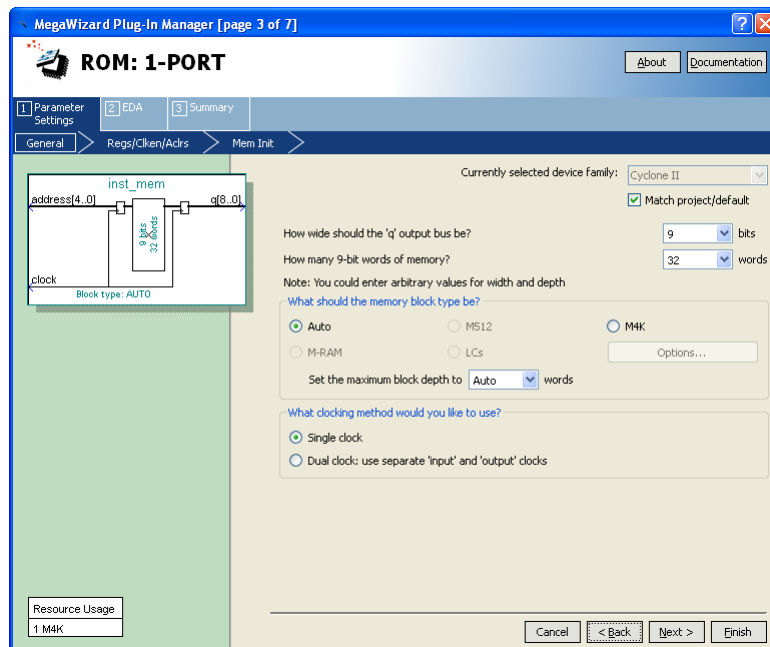

Figure 5. 1-PORT configuration.
2. Generate a top-level Verilog file that instantiates the processor, memory, and counter. Use the Quartus II MegaWizard Plug-In Manager tool to create the memory module from the Altera library of parameterized modules (LPMs). The correct LPM is found under the *Memory Compiler* category and is called *ROM: 1-PORT*. Follow the instructions provided by the wizard to create a memory that has one 16-bit wide read data port and is 32 words deep. Page 4 of the wizard is shown in Figure 5. Since this memory has only a read port, and no write port, it is called a *synchronous read-only memory (synchronous ROM)*. Note that the